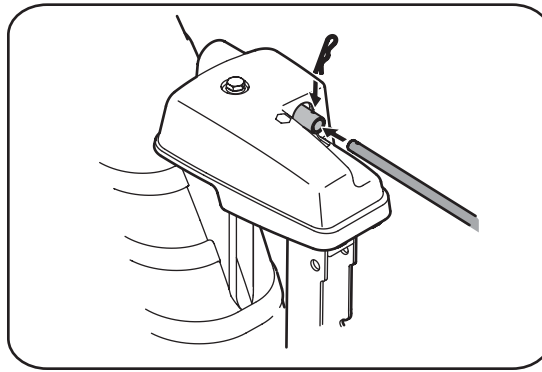

Figure 3-6
- a. Remove the cotter pin and insert the chute crank rod into the connector on the chute control assembly. See Figure 3-6.